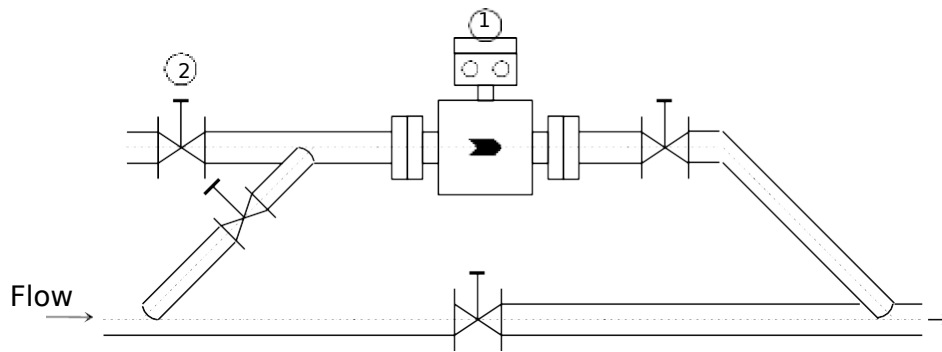

Figure 1.7
- 7) In case of heavily contaminated fluids, the primary flow tube should be installed with a bypass pipeline and isolation valves so that it can be removed for cleaning without interrupting operation. Primary Flow tube for Draining and Cleaning Refer Figure 1.7 installation diagram